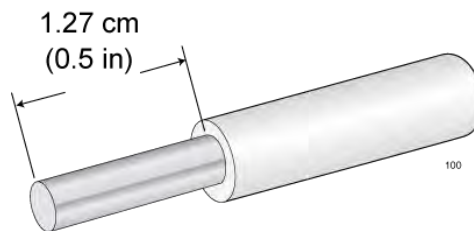

Figure 47. Stripping the Grounding Wire
1. Prepare an adequate length of stranded grounding wire (10 AWG) for the ground connection by stripping it as shown in Figure 47.